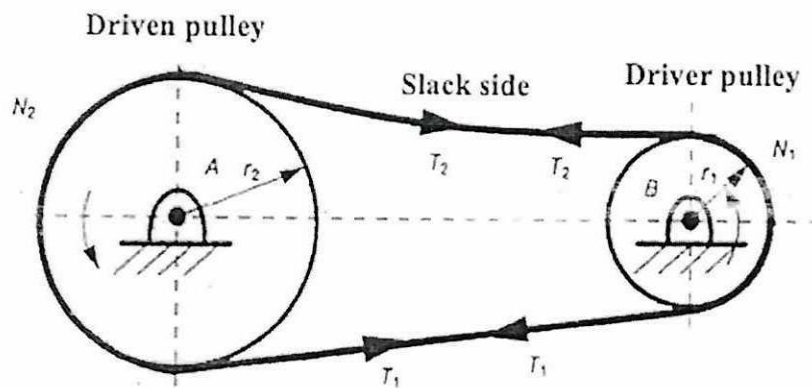

Figure Q5 (b)
- (b) The slack side of the belt drive is preferable to place on the top side as shown in **Figure Q5 (b)**. Discuss the possible reason behind this. (3 marks)